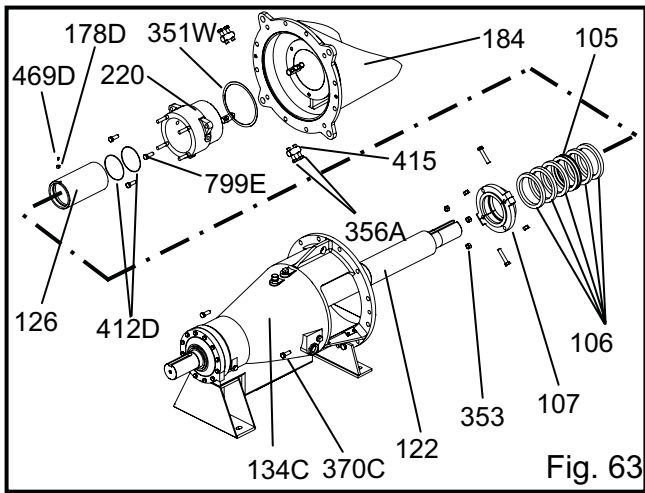

Fig. 63
15. Place the sleeve key (178D) into the shaft (122) key seat. Slip the O-ring (412D) into the shaft sleeve (126) then slide the sleeve onto the shaft until the keyways are lined up. Install the set screw (469D) and tighten it to lock the sleeve in place. Be careful not to mar or scratch the sleeve or shaft during the process. Attach the stuffing box (220) and gasket (351W) to the stuffing box cover (184) using screws (799E). If removed re-install the four studs (355). On larger pumps use a sling or hook and chain to support the weight of the stuffing box cover during installation. Mount the stuffing box cover (184) to the register of the bearing housing (134C). Be careful not to scuff or scar the pump shaft (122) or sleeve (126) during installation. Secure the stuffing box cover (184) to the bearing housing (134C) using bolts (370C). Pack the stuffing box initially with two rings of packing (106) staggering the joints for each row. Insert the lantern ring (105) being sure that the lantern ring lines up with the flush ports. If the lantern ring has taps for removal make sure they face out of the box. Insert three more rings of packing (106), gland (107), and gland nuts (353), tighten the nuts only hand tight. Install all flush tubing that may have been removed during disassembly, see Fig. 63.